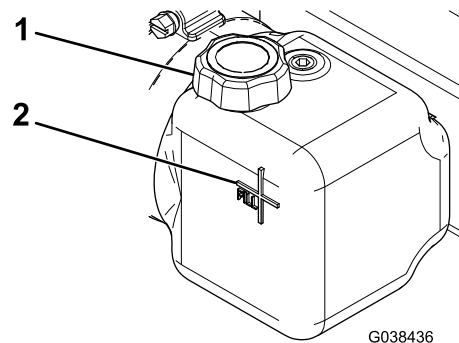

Figure 24
3. Ensure that the fluid comes up to the fill line on the side of the tank (Figure 24). If it does not, add more hydraulic fluid; refer to Adding Hydraulic Fluid (page 13).